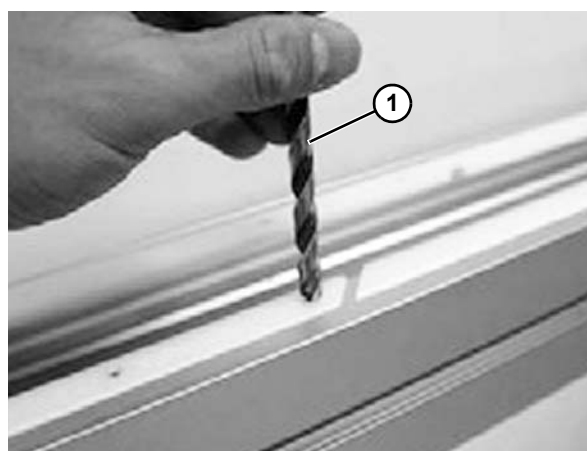

Figure 40
2. Use a bigger drill bit or countersink bit (**Figure 40, item 1**) to deburr and countersink the holes. Also make sure that there are no metal filings left underneath the slide rail.